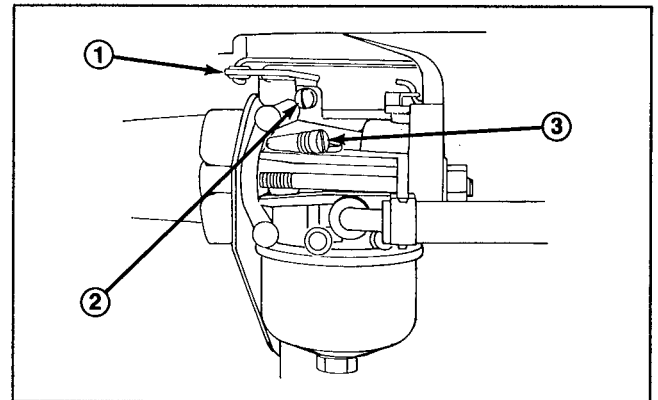

Figure 26
1. Gently turn idle mixture valve clockwise until it **just** closes (Fig. 26). Turning valve in too far may cause damage.
4. Rotate throttle (Fig. 26) counterclockwise and hold against idle speed adjusting screw (Fig. 26) while turning idle speed adjusting screw to obtain 1750 RPM.